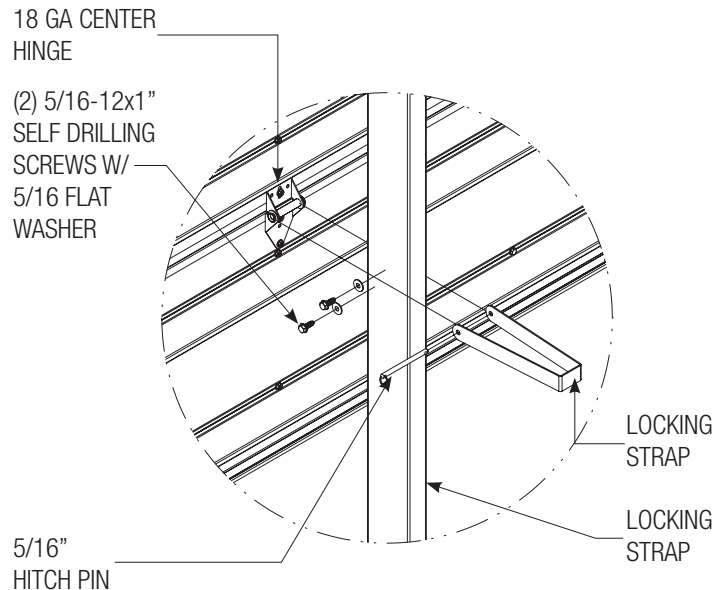

FIGURE 4
Lay the locking straps side by side and locate the short strap. Beginning with the short strap at the top hinge, place the strap over the post as shown in figure 4. Align the holes in the ends of the strap over the tube in the hinge and insert a 5/16" hitch pin as shown. Raise the back of the strap until the strap is perpendicular to the post. Connect the strap to the post with (1) 5/16-12 x 1" self drilling screw and flat washer 1/4" above the strap on the garage side of the post and 1/4" below the strap on the door side of the post as shown. Do not tighten the screws against the strap. Repeat for the remaining straps. The bottom locking strap should be located at the half hinge location installed in step 5.